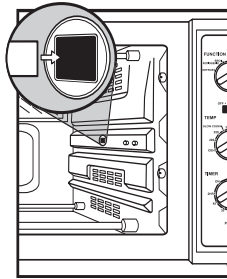

FIGURE 6
3. Place the round pointed end of Rotisserie Bar into opening on the right side Oven Wall. Place the opposite end of the Rotisserie Bar into the Bracket on the left side Oven Wall. (See Figures 6 and 7)